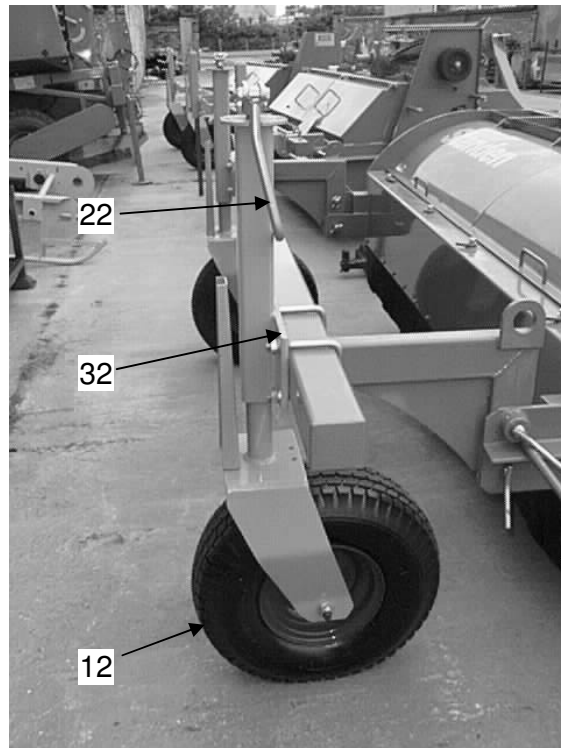

Figure 4
The amount of tops removed from the crop is determined by the setting of the depth wheels (item 1, figure 4). The amount of tops removed depends upon the crop being topped. To adjust the depth wheels raise the depth handle (item 2, figure 4) and turn it in the required direction.
The wheels are also adjustable for different row settings. The wheels are designed to run between the rows and should be positioned to straddle two rows of the crop. To adjust, slacken the U' bolts (item 3, figure 4) and slide the wheel assembly to the required position.